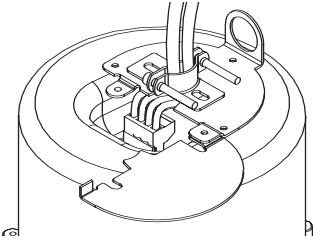

Figure 14: Secure cable through fitting
Step 4: Secure the Cable to the Speaker (Figure 14)
through the strain relief fitting on the terminal cover plate (Figure 14). Hold the strain relief fittings tight around the cable. Tighten the strain relief screws first, then the horizontal screw. In the cases of insulated speaker wire and plenum cable, it is often possible to provide acceptable strain relief force by simply tightening the strain relief screws onto the terminal cover plate.